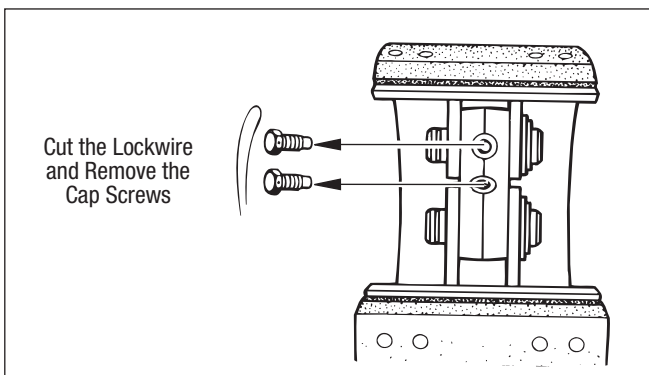

Figure 24 – Cap Screw Removal
4. To allow removal of the anchor pin, cut the lockwire and remove the cap screws from the spider. Refer to Figure 24.